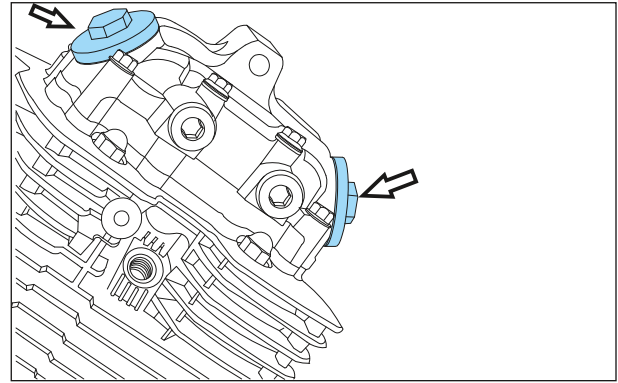

Fig. 2.25
- Remove the cap inspection hole along with 'O' ring (29.5x3) from cover cylinder head. (Fig. 2.25)